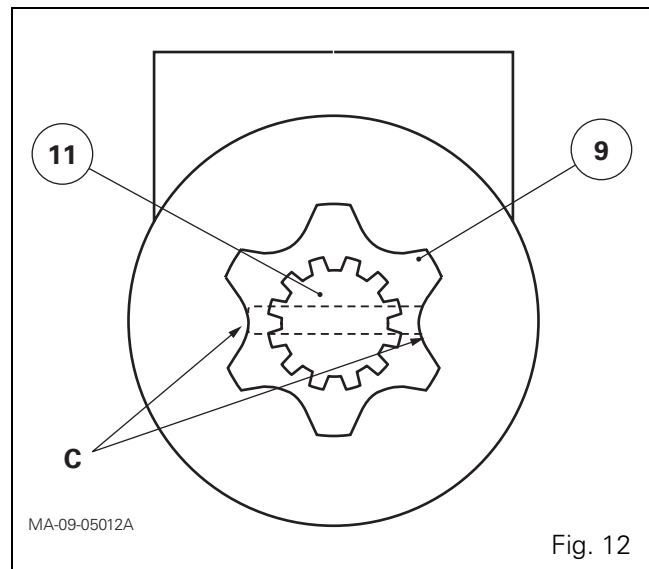
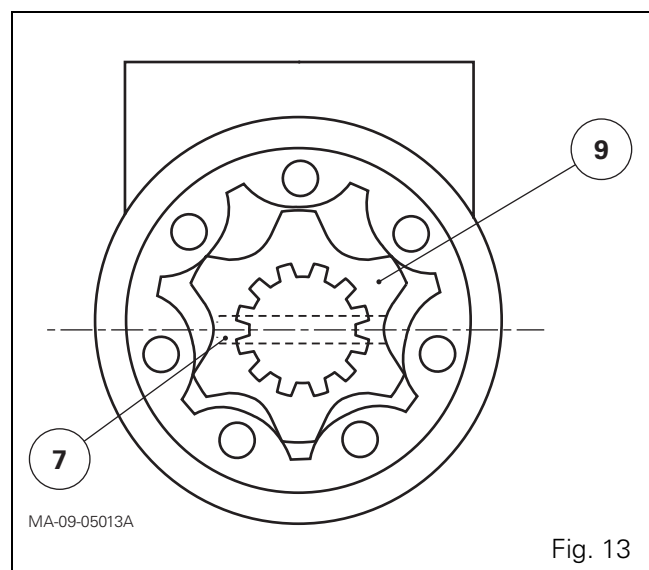
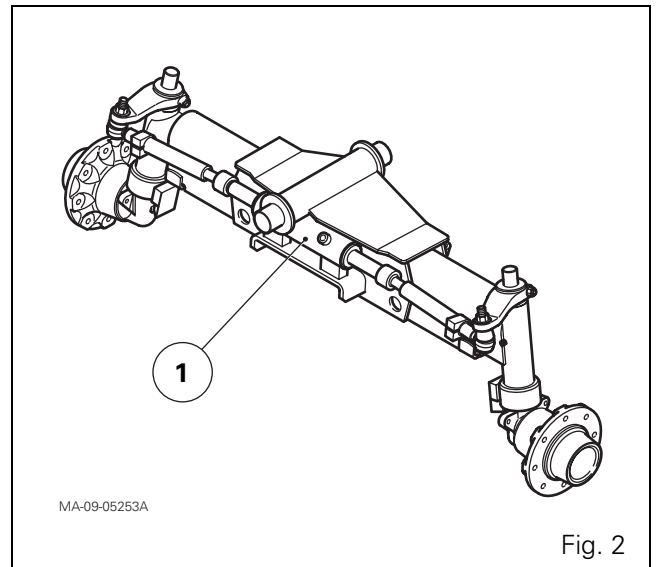

Fig. 12
Fig. 13
Fig. 2
27. Fit the O'ring (28) and the distributor plate (29).
28. Fit the rotor (9) so that the two concave depressions (C) lie along the axis of the slot in the splined link shaft (11) (Fig. 12). Refit the spacer (10).
29. Place the O'rings (5) (8) on the stator (6).
30. While avoiding moving the rotor (9), fit the stator (6). Then move it so that its fixing holes match with those of the steering unit.
Reminder: The rotor (9) and the pin (7) must be in the position shown in Fig. 13.
31. Refit the closing plate (4).
- the screw (2) (in the positions marked during disassembly) (Fig. 2);
- the opposing screws (1) tightened to 30-35 Nm (Fig. 2);
- a double acting steering ram (1) with a different profile according to the type of tractor or front axle (Fig. 2).